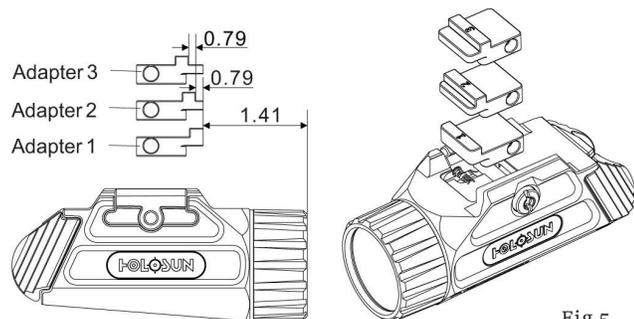

Fig 5
The P.ID comes with 3 adapters, Marked as 1,2,3 respectively. See Fig 5. All three adapters are meant for any firearms with MIL-STD 1913 or similar rail. To change out the rail interface adapter, the P.ID must be removed from the rail.
- 4) Place the fixed side of the rail clamp against the firearm rail, use the included tool to turn the clamp screw head clockwise completely until the P.ID is secured onto the rail and cannot be moved forward or back. See Fig 5